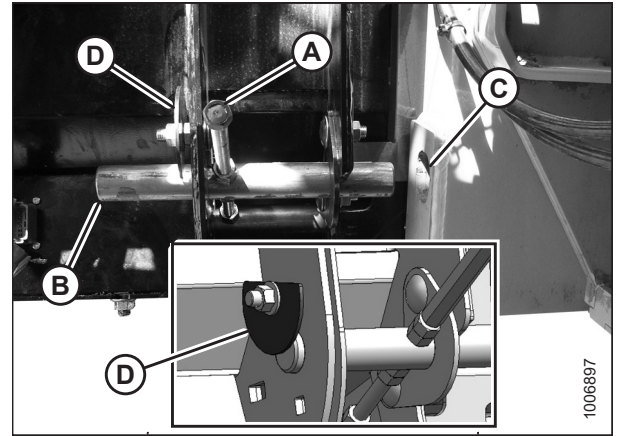

Figure 6.51: Feeder House Lock
- Grasp handle (A) and slide pin (B) into feeder house receptacle (C) until pin stop (D) drops down to lock the pin as shown in Figure 6.51, page 101. Ensure that the pin is engaged on the opposite side of the feeder house.
- If pin (B) does not align with feeder house receptacle (C), or if the header pan and the bottom of feeder house opening are not properly aligned, reposition the top beam by performing Step 8, page 101 to Step 17, page 102.